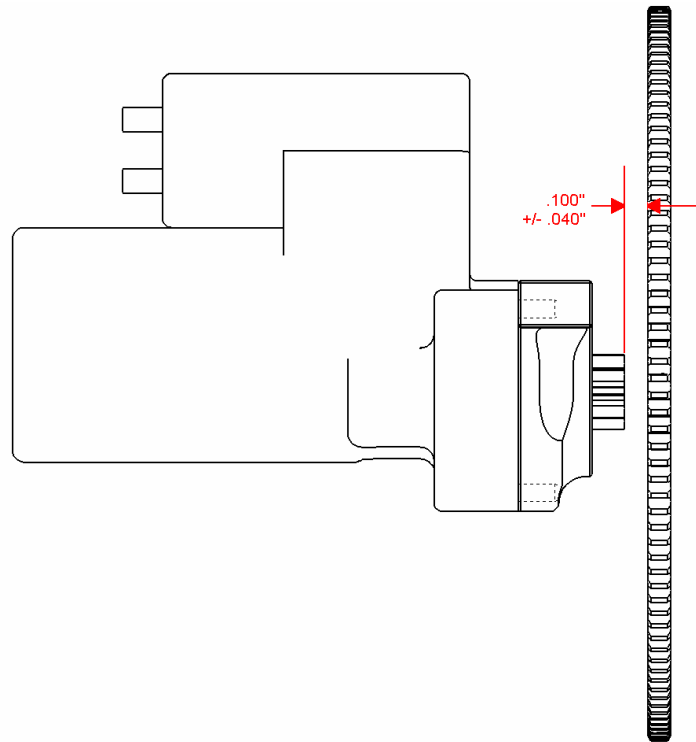

Figure 2: Pinion-to-ring gear clearance
3. Check the starter pinion-to-ring-gear clearance. Refer to Figure 2. With the starter pinion disengaged, there should be .100" +/- .040" between the pinion and the ring-gear. Shim if necessary. Quarter Master offers .030" (P/N 114943) and .060" (P/N 114940) shim kits.